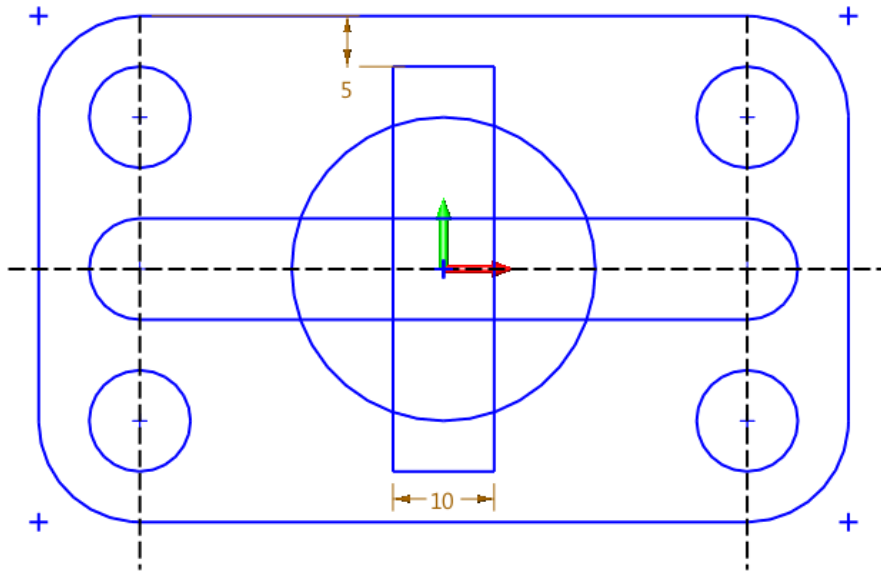

Figure 114 Rectangle
**STEP 06** Create a rectangle with width 10mm, which center is the origin. And set the dimension as shown in the Figure 114.